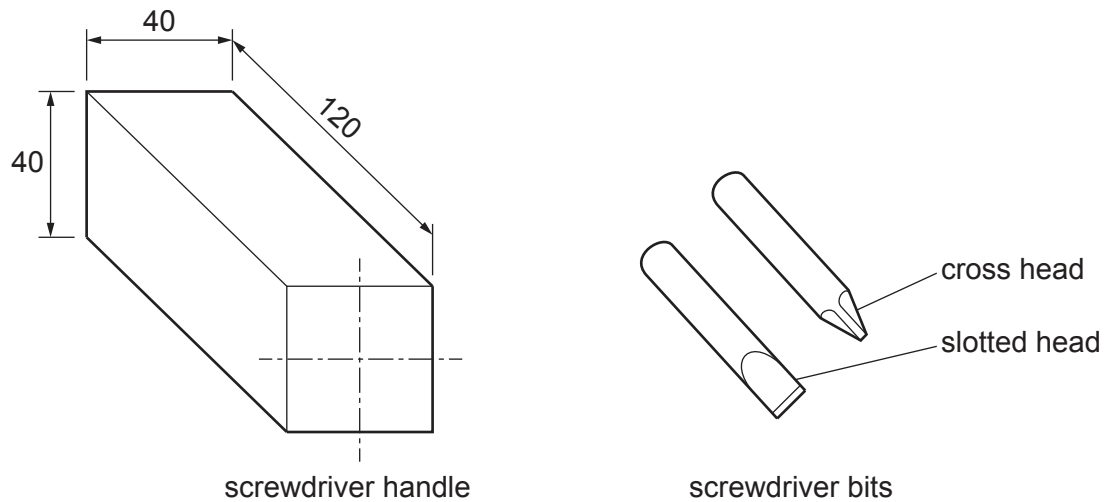

Fig. 9.1
- 9 Fig. 9.1 shows incomplete designs for three parts of a screwdriver set. The screwdriver handle is made from polypropylene and the two screwdriver bits from Ø6 mm chromium plated steel bar.